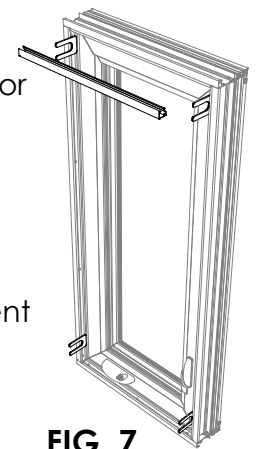

FIG. 7
- Carefully set the vent onto PVC shims at the sill. Push the vent into the opening tight to the exterior gasket. **See FIG. 7**